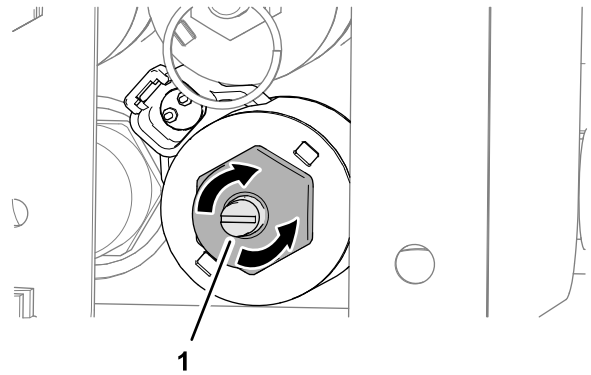

Figure 32
1. Rotate the hex-head screw for the valve override clockwise to increase the floor speed (Figure 32).